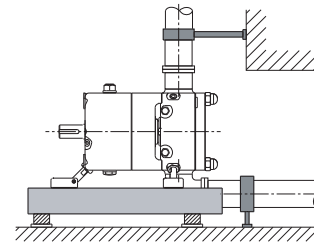

Fig. 24 Pipework supports
- Make sure that the pipework supports can support the pumped medium. See figures 24 and 25.